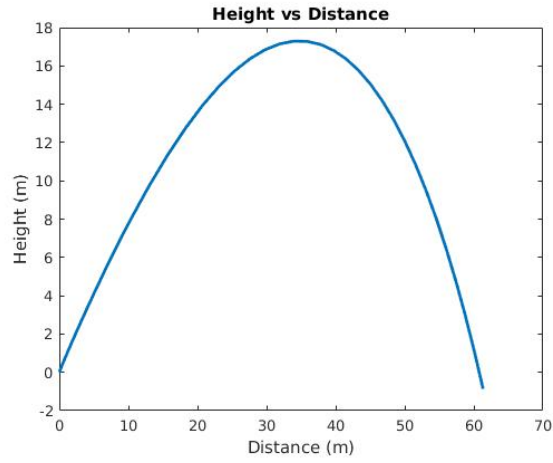
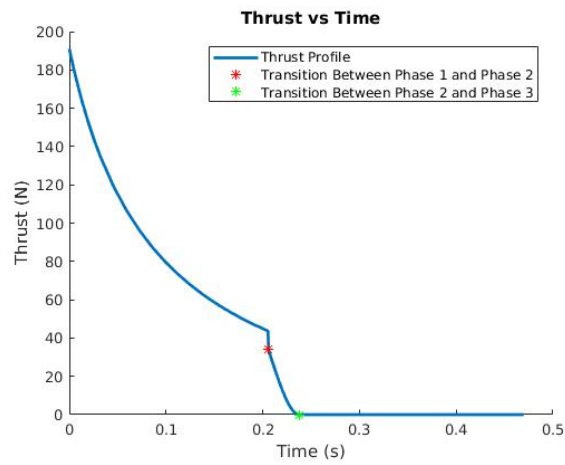
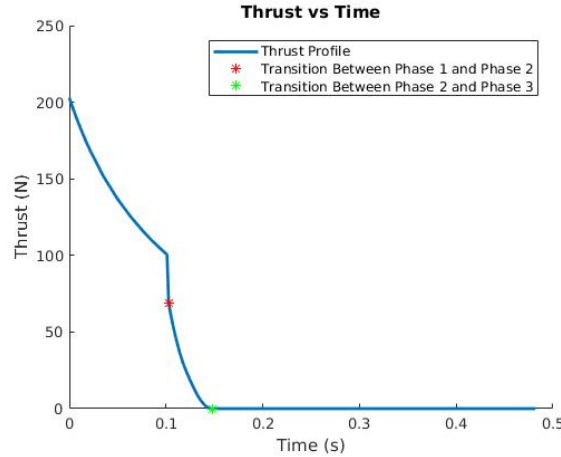

Fig. 1 Plot of bottle rocket trajectory for verification case.
Fig. 2 Plot of bottle rocket thrust profile for verification case.
Fig. 4 Plot of bottle rocket thrust profile for actual case.
Figure 1 and 2 show a plot of the trajectory of the bottle rocket and its thrust profile using the initial conditions provided in the verification document. In the thrust profile, the transition between phase 1 and phase 2 is indicated by a red asterisk. The transition between phase 2 and phase 3 is indicated by a green asterisk.
Finally, it is perhaps useful to discuss the shape of the plots for both the verification case and the test case. In general, we see from figures 1 and 3 that the trajectory of the bottle rocket follows a roughly parabolic shape. This makes sense as the bottle rocket is essentially a glorified projectile capable of producing a little additional thrust at the beginning of launch. Figures 2 and 4 show that the thrust profile matches what we'd expect based on the theory discussed in the introduction. Note that in when comparing figure 4 to figure 2, we see that figure 4 has a much shorter phase 1 and a longer phase 2. This harks back to the previous paragraphs talking about the effect of the initial volume fraction of water on the trajectory of the rocket.
- Sketch: (See Figure 1)